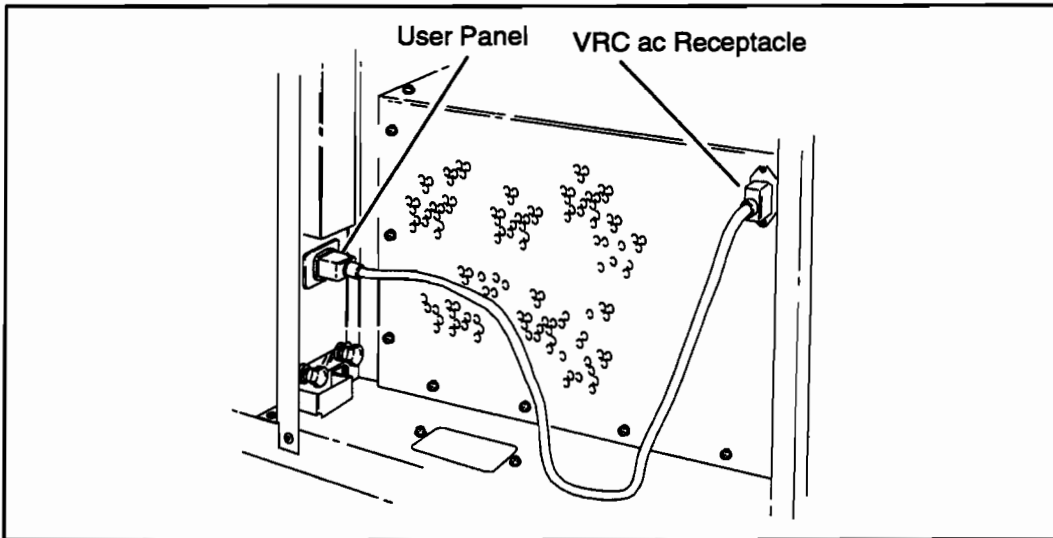

Figure 3-9. VRC Power Cord Connections
4. Connect the VRC power cord to the VRC and to the ac receptacle on the User Panel inside the print engine. See Figure 3-9.